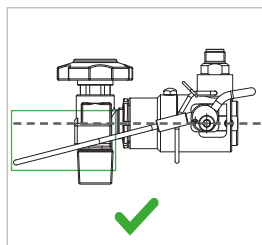

Figure 9
▶ Fold the actuation bail (Pos. 6) upwards. It must be possible to lift the bail easily and without any force. In its end position, the wire rope must be below the horizontal of the connector (Figure 9).